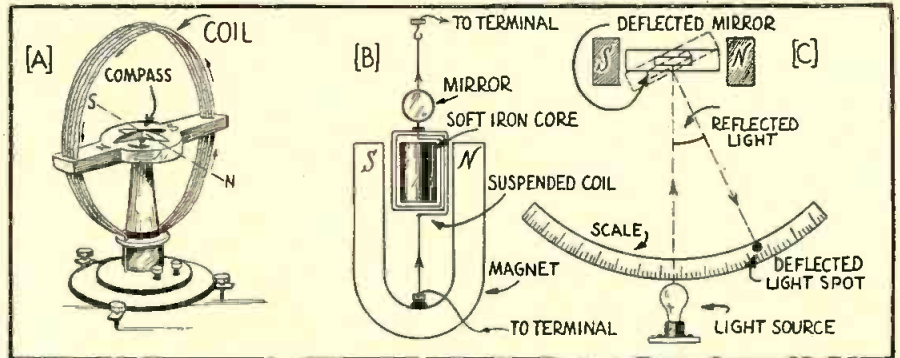

Figure 1. (A) Simple form of tangent galvanometer. (B) D'Arsonval galvanometer movement. (C) Light beam arrangement for amplifying movements of the mirror.
Probably the simplest type of magnetic current indicating and measuring instrument, is the tangent galvanometer shown at (A) of Figure 1. A description of the construction and action of this old form of instrument follows:
The tangent galvanometer consists of a vertical coil of insulated copper wire, with a small permanent-magnet compass needle mounted in a horizontal plane at its center, as shown in (A) of Figure 1. Since this compass needle is free to rotate in a horizontal plane, it will point exactly north and south in the earth's magnetic field when no current is flowing through the coil.
Now the current to be measured is sent through the coil of wire. This produces, inside of the coil, a magnetic field whose strength depends upon the number of turns of wire and the current. With the current direction shown at (A) of Figure 1, an N pole is produced at the front face of the coil and an S pole is produced at the rear, as marked. The S pole of the coil coincides with the S pole of the compass needle and makes it tend to move around in a clockwise direction, against the force of attrac-